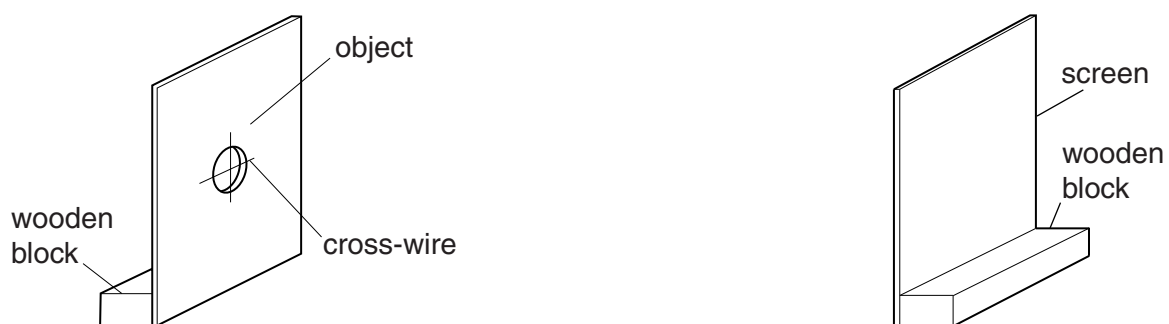

Fig. 4.1
- The object and the screen should be supported so that they can stand perpendicular to the bench. This could be done by attaching blocks of wood to the base of the object and screen, as shown in Fig. 4.1.